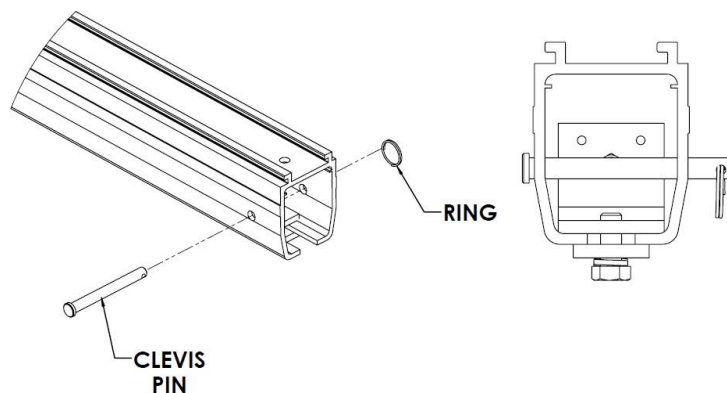

Figure 10: ***Clevis Pin and Ring Installed***
- Install the clevis pin and ring as shown in Figure 10.